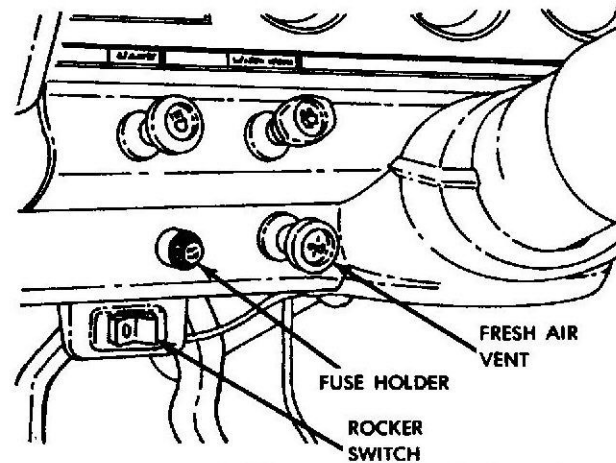

Fig. 4 Fuse Holder and Switch Location
- (8) Connect terminal end of 6 inch yellow wire to left hand lamp.
- (9) Strip ¼ inch of insulation from other end of 6 inch yellow wire.
- (10) Insert both ends of yellow wire from roll bar and 6 inch yellow wire from lamp into 3-way butt connector and crimp securely.
- (11) Push 3-way connector and wires into left hand access hole in roll bar.
- (12) Insert strain relief bushing into left hand access hole.
- (13) Route yellow wire extending from pick-up box along inner side of left frame rail to engine compartment.
- (14) Route wire up dash panel (firewall) and through heater vacuum control hose grommet into passenger compartment.
- (15) Drill a ½ inch diameter hole in lower instrument panel 2-½ - to - 3 inches left of fresh air vent knob.
- (16) Install fuse holder (Fig. 4).
- (17) Drill two 1/8 inch holes under instrument panel, below fuse holder. Use rocker switch as template.
- (18) Install rocker switch (Fig. 4).
- (19) Attach one end of 12 inch brown wire to positive (+) terminal of rocker switch. Attach other end to straight side terminal of fuse holder.